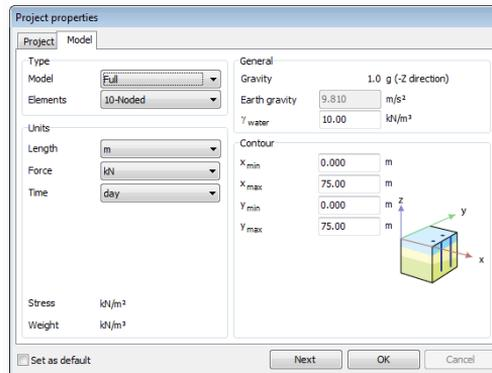

Figure 1.4 *Model* tabsheet of the *Project properties* window
- Proceed to the *Model* tabsheet by clicking either the *Next* button or the *Model* tab (Figure 1.4).